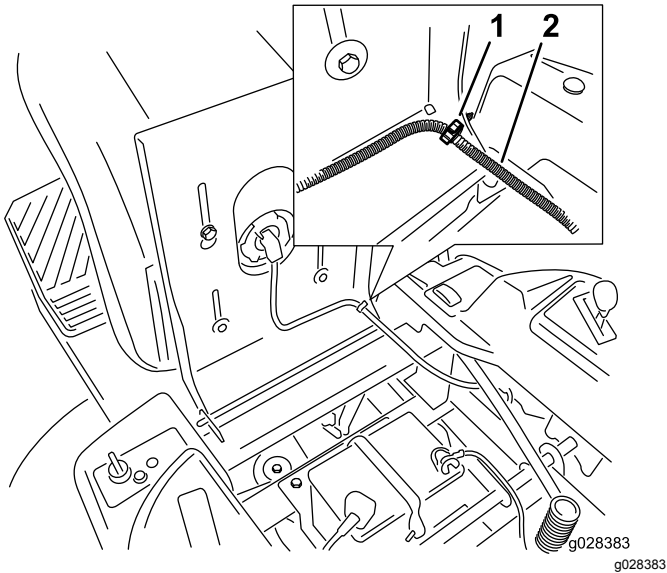

Figure 10
3. Route the wire harness to the right side of the machine and push the plastic connector into the seat frame hole (Figure 10).